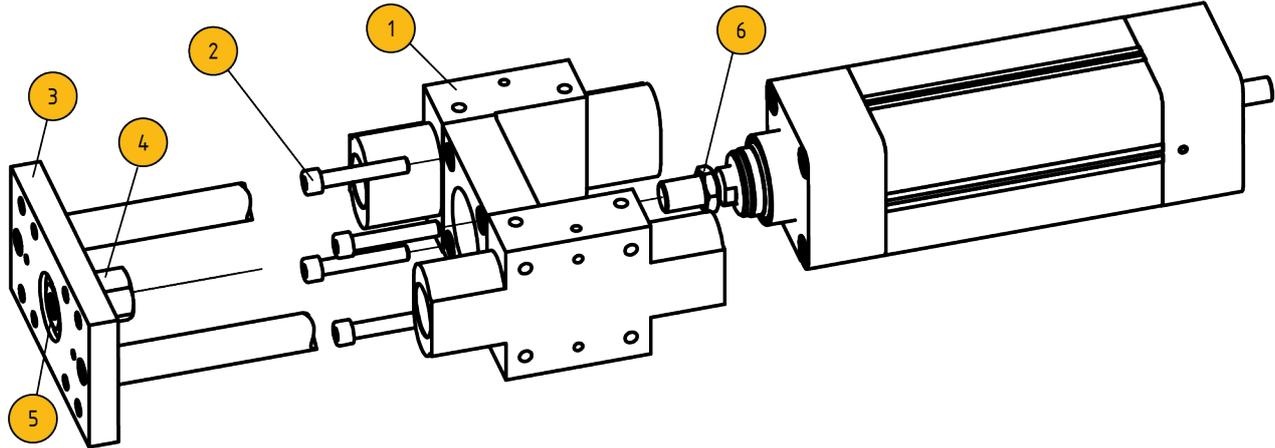

Figure 8: Mounting the rod guide
- ◆ Unwrap the rod guide and remove the transportation lock between the rod guide module (see Figure 8 Pos.1) and the front panel (see Figure 8 Pos. 3).
- ◆ Slide the rod guide module (see Figure 8 Pos. 1) onto the centering collar of the ETH cylinder.
- ◆ Screw together the rod guide module with the screws supplied (see Figure 8 Pos. 2) and the required tightening torque. For tightening torques see chapter 2.1.2.2 screw tightening torques for the mounting of the ETH cylinder on the customer's side, option F.
- ◆ Loosen the screw (see Figure 8 Pos. 5) thus the lock nut (see Figure 8 Pos. 4) can move freely.
- ◆ Turn the lock nut on the piston rod of the ETH cylinder and lock it with the hexagon nut (see Figure 8 Pos. 6).
- ◆ Clamp the lock nut with the front panel by tightening the screw (see Figure 8 Pos. 5) with the required tightening torque.